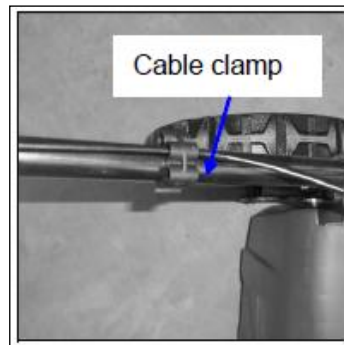

Fig.2I
5. Attach the cable-clamp to the position shown and then attach the cable. (Fig.2I)